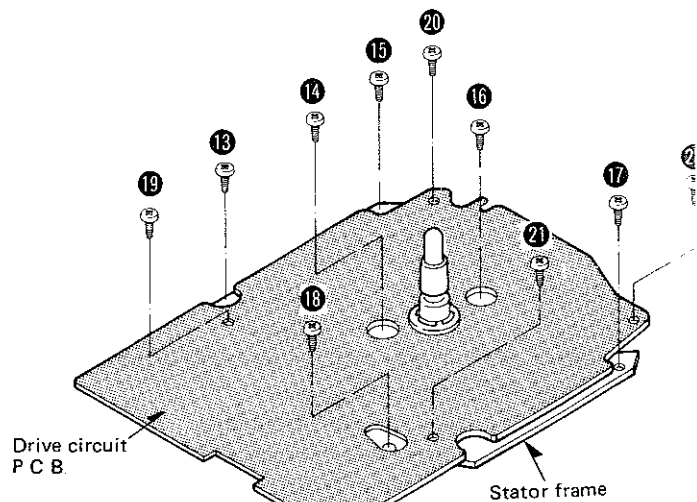

Fig. 5
2. Remove the 6 stator frame setscrews (Fig. 5 : ⑬ ~ ⑱), then the stator frame can be removed
3. Remove the 4 setscrews (Fig. 5 : ⑲ ~ ⑳) of drive circuit P.C.B. Then the drive circuit P.C.B. can be separated from the stator frame.